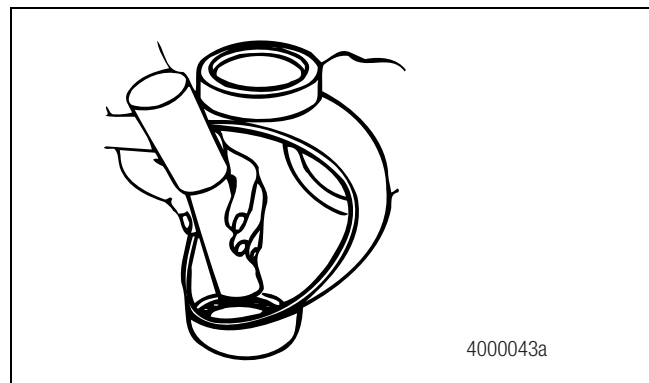

Figure 4.30
- A. Drive the socket plug and bushing toward the outside of the socket. Use a sleeve that is slightly smaller than the socket bore. Figure 4.30.